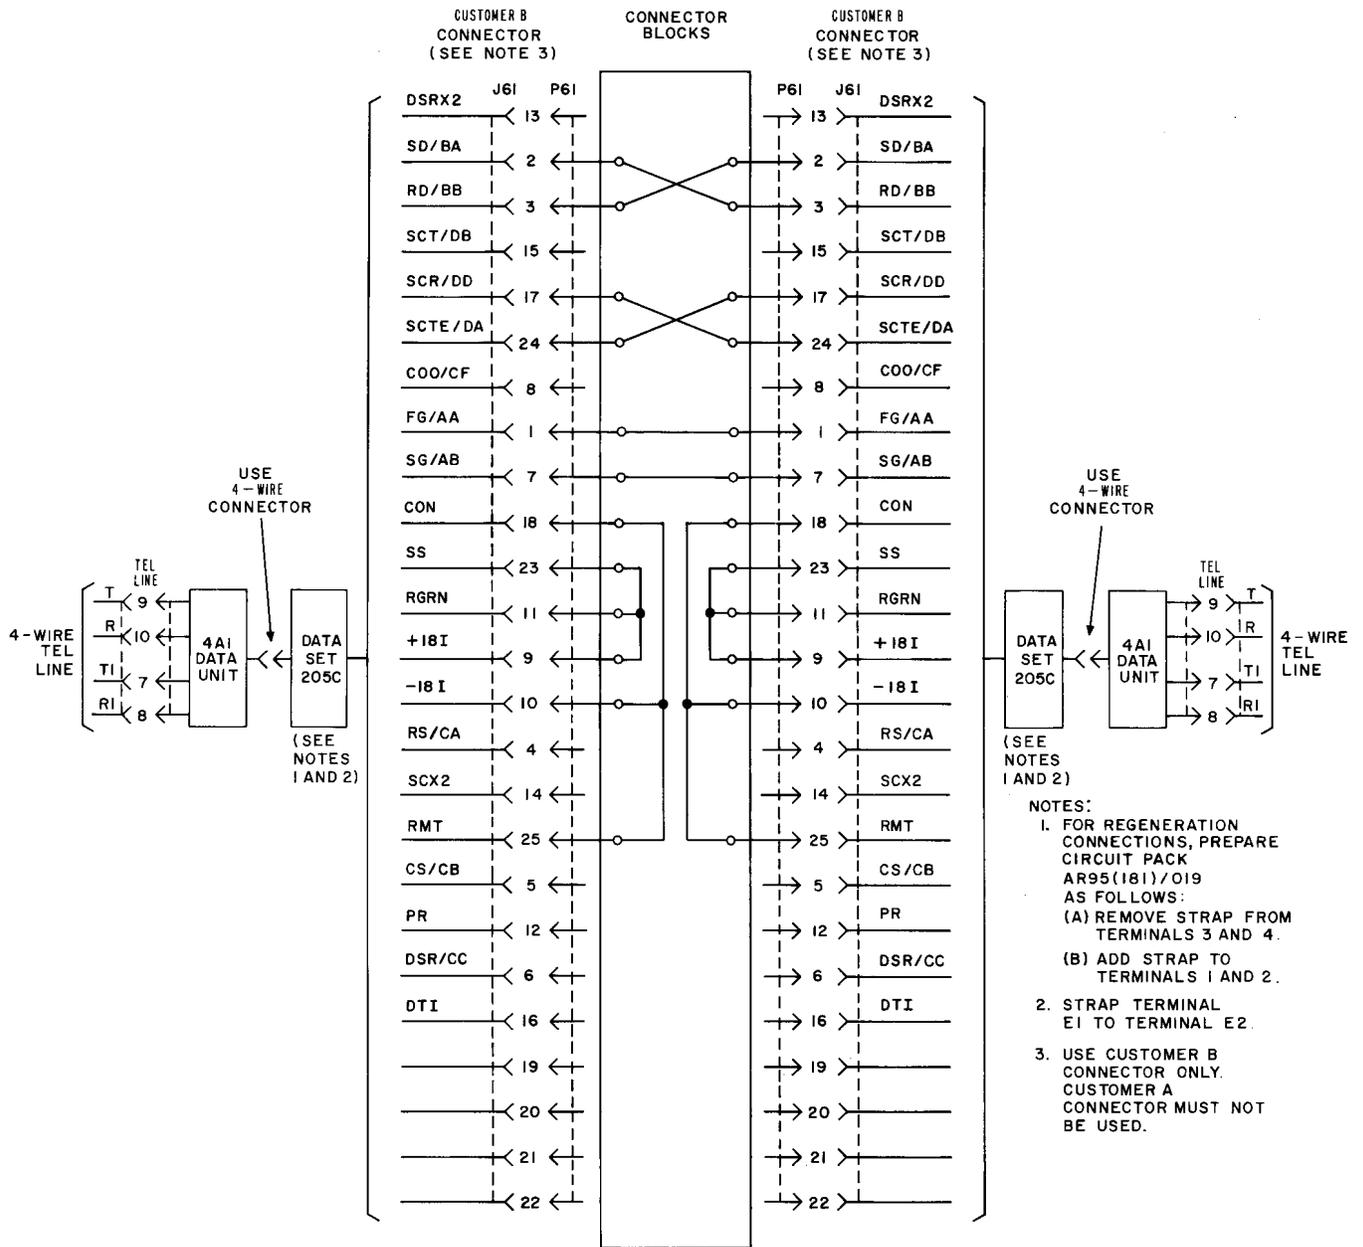

Fig. 4 — Regenerative Repeater Interconnections
6.30 The RGRN circuit permits the data set to be operated as a half-regenerator. Two data sets are required for each 4-wire regenerative repeater. Interconnections between the two data sets are established through the CUSTOMER B connectors. Figure 4 illustrates the typical regenerative repeater interconnections. Both the RGRN and SS interface leads must be ON when the data set is used as a regenerator. The frequency of the receiver clock signal appearing at SCR/DD is 1200 Hz (receiver dibit clock). Receive data (RD/BB) is connected to the send data (SD/BA) input of the transmitter. Serial clock receive (SCR/DD) is connected to the external timing input (SCTE/DA) of a transmitter to keep the transmitter dibit clock "in phase" with the receiver dibit clock. This maintains the identity of the A and B data bits and guarantees that the repeated line signal is identical to the received line signal at a regenerative repeater.